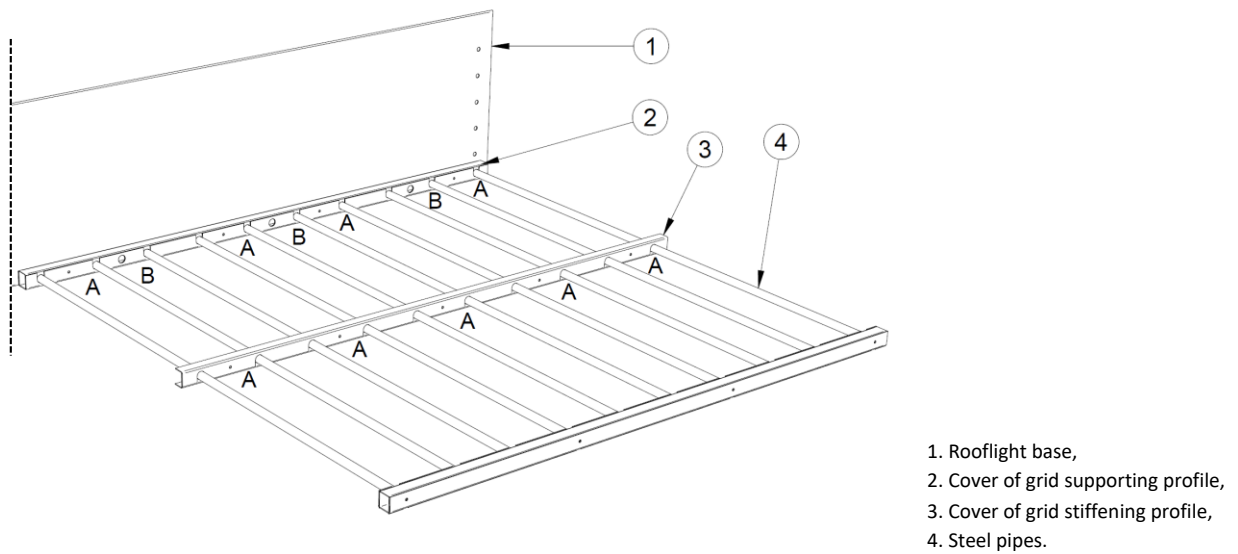

Figure 19 Arrangement of cover profiles
5. Put on the covers and screw them to the grid supporting profile (B) and to the base (Figure 19) through the supporting profile at positions defined by the holes (A) using $\varnothing 6.3 \times 25$ mm self-drilling screws (Figure 19).